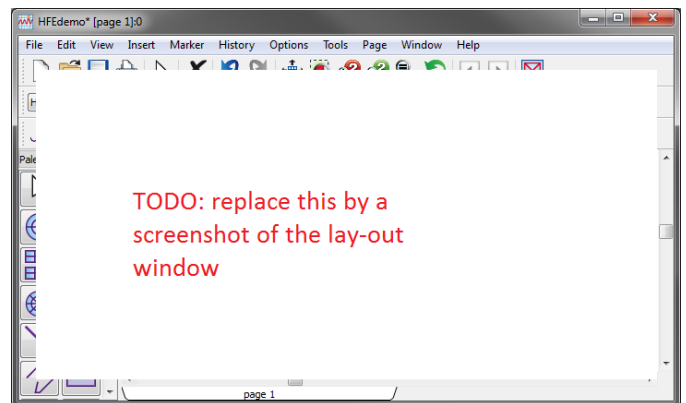

Figure 15. Lay-out window in ADS
**Lay-out window:** You can automatically generate the lay-out of a circuit by pressing *Layout*→*Generate/Update*. The generated lay-out will then appear as an extra file in the cell and the lay-out window will open (Figure 15). Each component of the schematic is represented by its lay-out